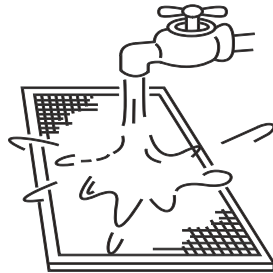

Figure 13.3
- The air intake side should face down when using clean water. (Refer to Figure 13.3)For excessive dusts, use a soft brush and natural detergent to clean it and dry in a cool place.